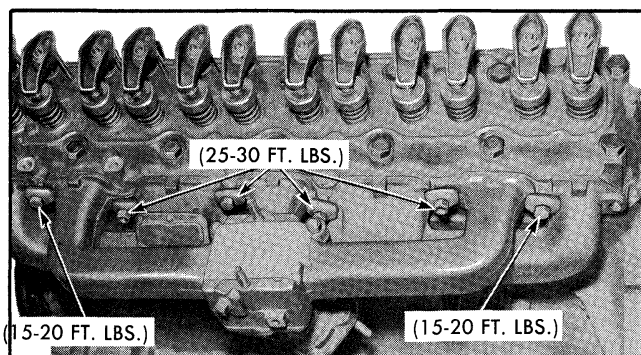

Fig. 6-15 Manifold Attaching Points
6. Tighten center clamp bolts to 25-30 lb. ft. and end bolts to 15-20 lb. ft. (Fig. 6-15).